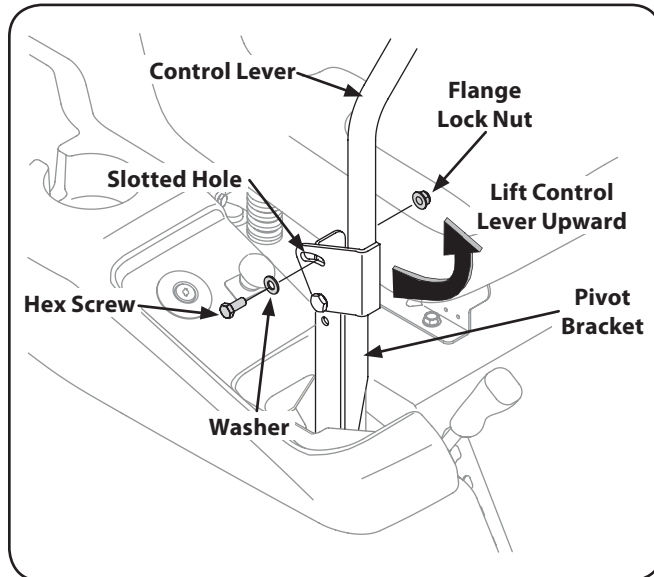

Figure 3-4
2. Lift and swing that control lever upward until the slotted hole in the lever bracket aligns with one of the holes in the pivot bracket. See Figure 3-4.
3. Slide the flat washer onto the hex screw. From the outside, insert the hex screw with washer through the control lever slot and the hole of the pivot bracket. Secure with the flange lock nut. See Figure 3-4.